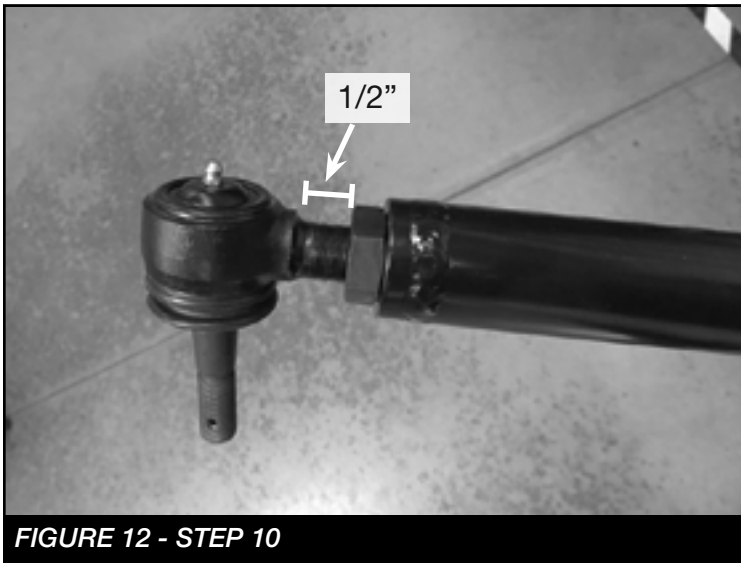

FIGURE 12 - STEP 10
9. Install the supplied Jam Nut on the FT50705 (Tie Rod End). **NOTE: When installing leave 3/4" space between the jam nut and the end of the thread on the rod end. This is a starting point, final adjustments will be made when alignment is made. SEE FIGURE 12.** Install the new rod end into the drag link.